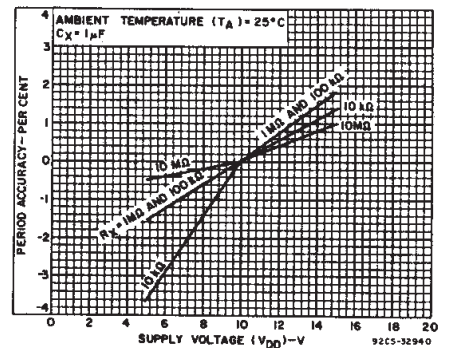

Fig. 11—Typical astable oscillator or Q, \bar{Q} period accuracy vs. supply voltage.
B. Variations Due to V_{DD} and Temperature Changes — In addition to variations from unit to unit, the astable period varies with V_{DD} and temperature. Typical variations are presented in graphical form in Figs. 11 to 18 with 10 V as reference for voltage variation curves and 25°C as reference for temperature variation curves.